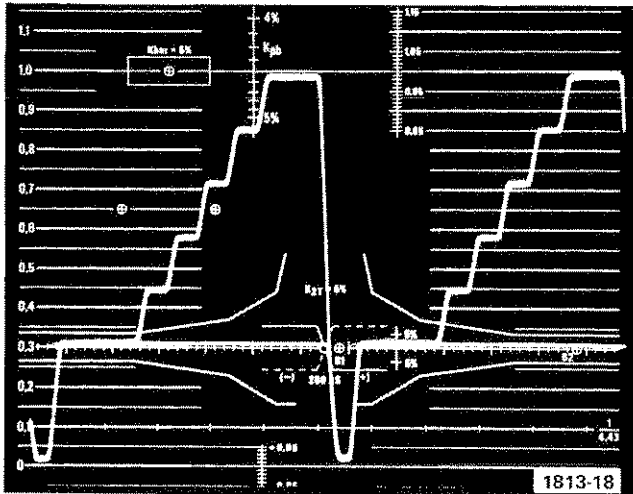

Fig. 2-12. Effect of the LOW PASS filter on a PAL modulated staircase signal.
5. **LOW PASS.** Set INPUT to A and RESPONSE to FLAT. Set the PAL composite video source for a modulated staircase. Observe the FLAT response, then switch to LOW PASS. Note the roll-off effect on the line sync pulse edges and staircase step edges (see Fig. 2-12).